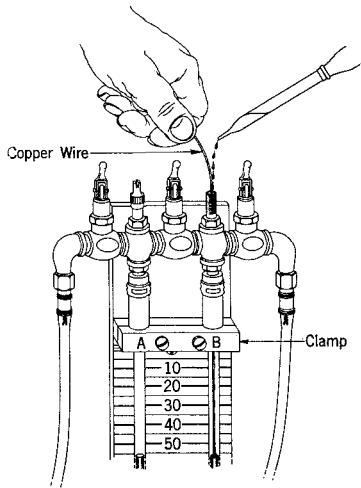

Fig. 3 — Replacing Alcohol
4.01 When required, alcohol can be added to the instrument as follows. (See Fig. 3.)